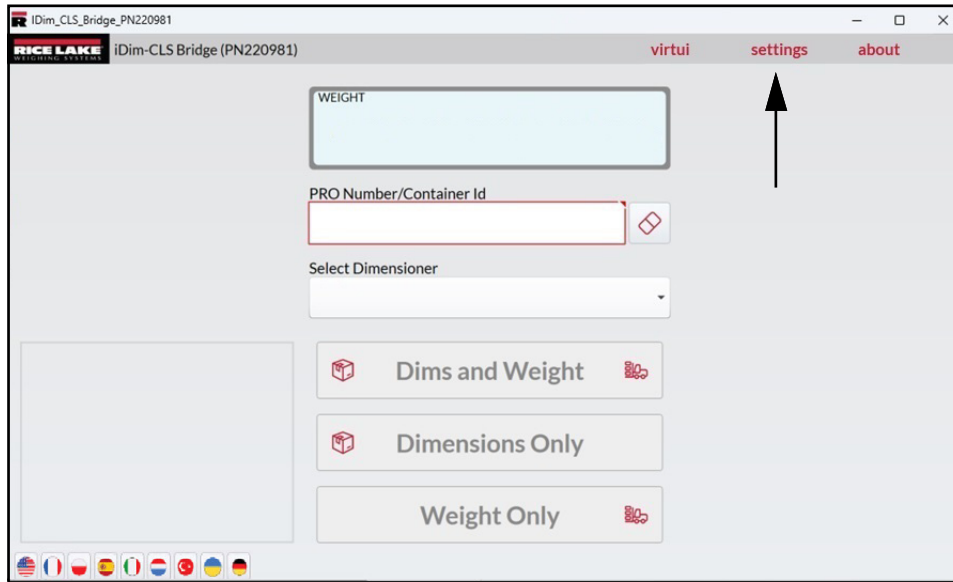

Figure 4-2. Main View settings Button
- **Enabled:** Enable this check box to display the dimensioner in the Select Dimensioner drop-down menu (see Figure 4-2 on page 10) in the main view.